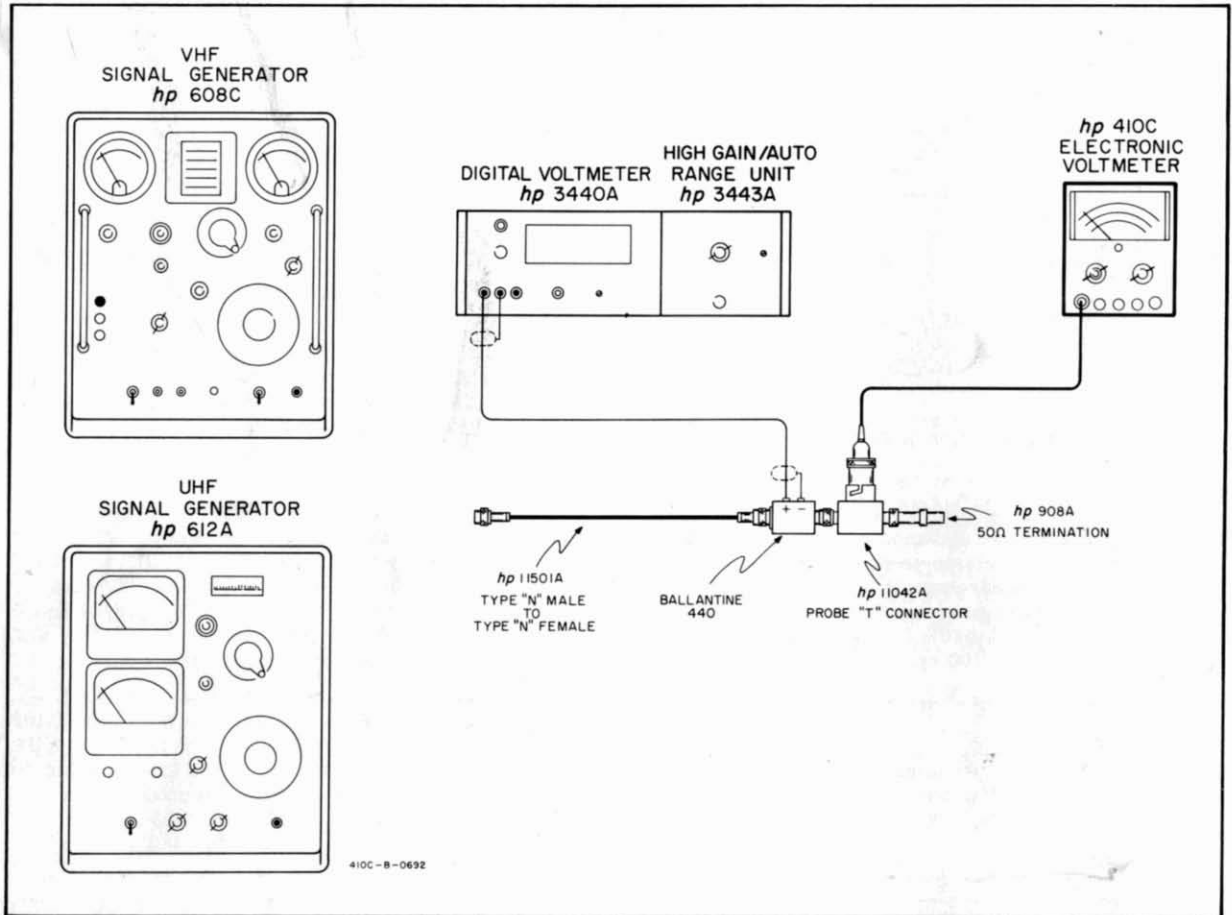

Figure 5-4. High Frequency Response Test
a Probe-T-Connector (-hp- Model 11042A), a Micropotentiometer (Ballantine Model 440), and a DC Voltmeter (-hp- Model 3440A/3441A) are required for this check. Figure 5-4 describes test arrangement to be used.
- Replace VHF oscillator with UHF oscillator in Figure 5-4. Repeat steps b and c for UHF oscillator output frequencies from 480 Mc to 700 Mc.